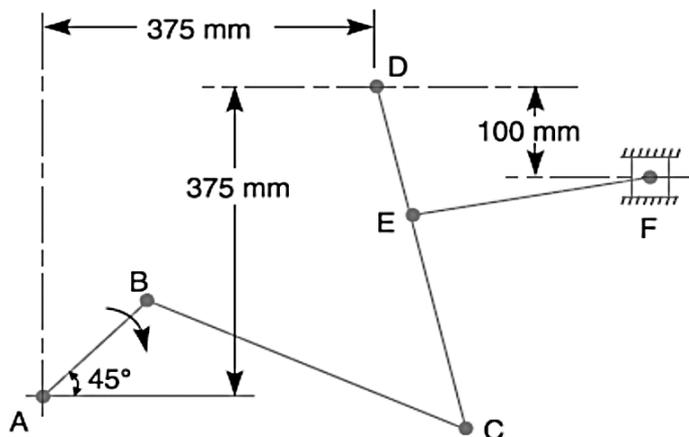

Figure 1
- (c) The mechanism, as shown in Figure 1 below, has the dimensions of various links as follows :